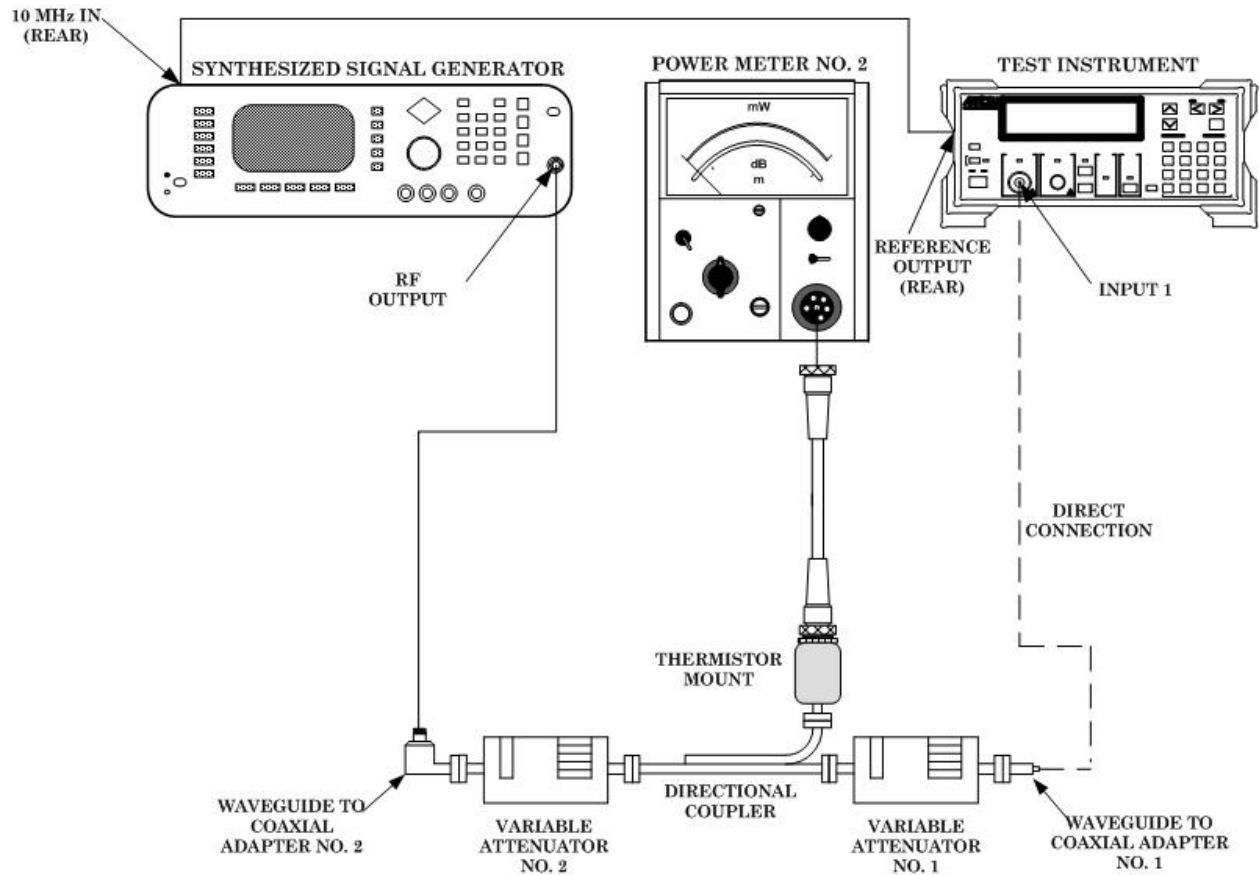

Figure 5 Sensitivity test (26.5 to 40 GHz) - equipment setup.
- (1) Connect equipment as shown in figure 5.
- (2) Set variable attenuator no. 1 to 0 dB.
- (3) Adjust synthesized signal generator frequency to 26.5 GHz.
- (4) Adjust synthesized signal generator RF output controls and variable attenuator No. 2 controls for a power meter no. 2 indication of -10 dBm.
- (5) Slowly increase variable attenuator no. 1 attenuation until TI loses stable count.
- (6) Slowly decrease variable attenuator no. 1 attenuation until TI just begins to indicate a stable count.
- (7) Add directional coupler actual coupling factor from correction chart to power meter no. 2 indication and record sum.
- (8) Subtract 0.5 dB (waveguide to coaxial adapter insertion loss (max)) from variable attenuator no. 1 corrected value and record difference.
- (9) Subtract difference recorded in (8) above from sum recorded in (7) above. If the difference is not at least the minimum value listed in table 10, prepare a test report and record actual sensitivity value for test frequency.
- (10) Repeat technique of (2) through (9) above for the remaining frequencies listed in table 11.